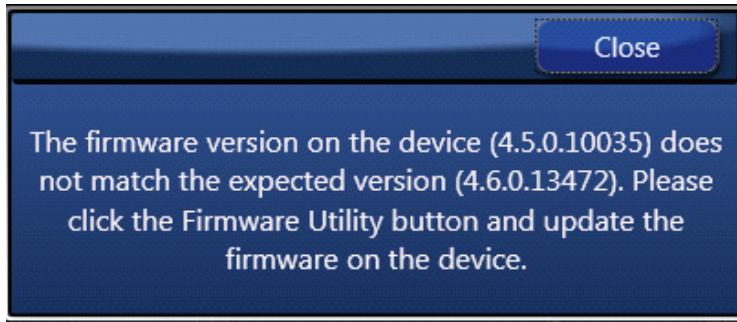

Figure 11. Firmware Version Mismatch Warning Message
- If ClockMatrix device's firmware, or firmware loaded from EEPROM, has a different version from that in the Personality file, a firmware version mismatch warning message will appear (see Figure 11). Click "Close" button to close the message window and a connection is made.